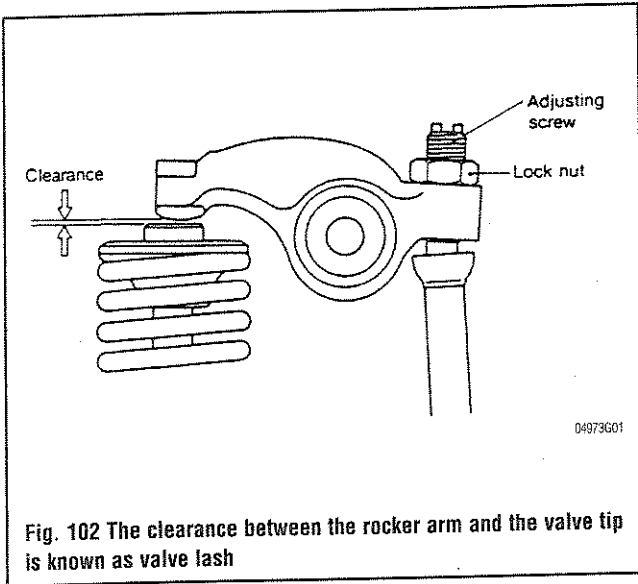

Fig. 102 The clearance between the rocker arm and the valve tip is known as valve lash
▶ See Figures 102 thru 108
▶ See Figures 102 thru 109
▶ See Figures 102 thru 108, 110 and 111
▶ See Figures 102 thru 108, 112 and 113